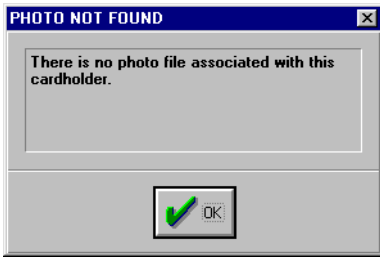

Figure 40: Photo Not Found
4. If there is no photo image file for the selected cardholder a “Photo Not Found” window appears (see Figure 40 on page 30).